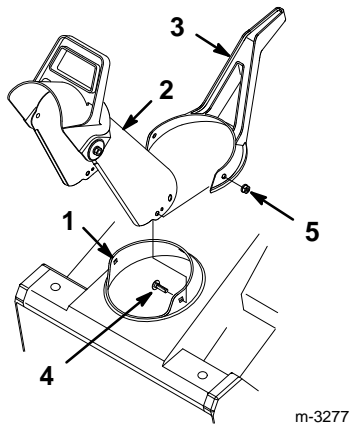

Figure 4
1. Place the chute handle over the chute ring (Fig. 4).
2. Insert the discharge chute between the chute ring and the chute handle. (Fig. 4).